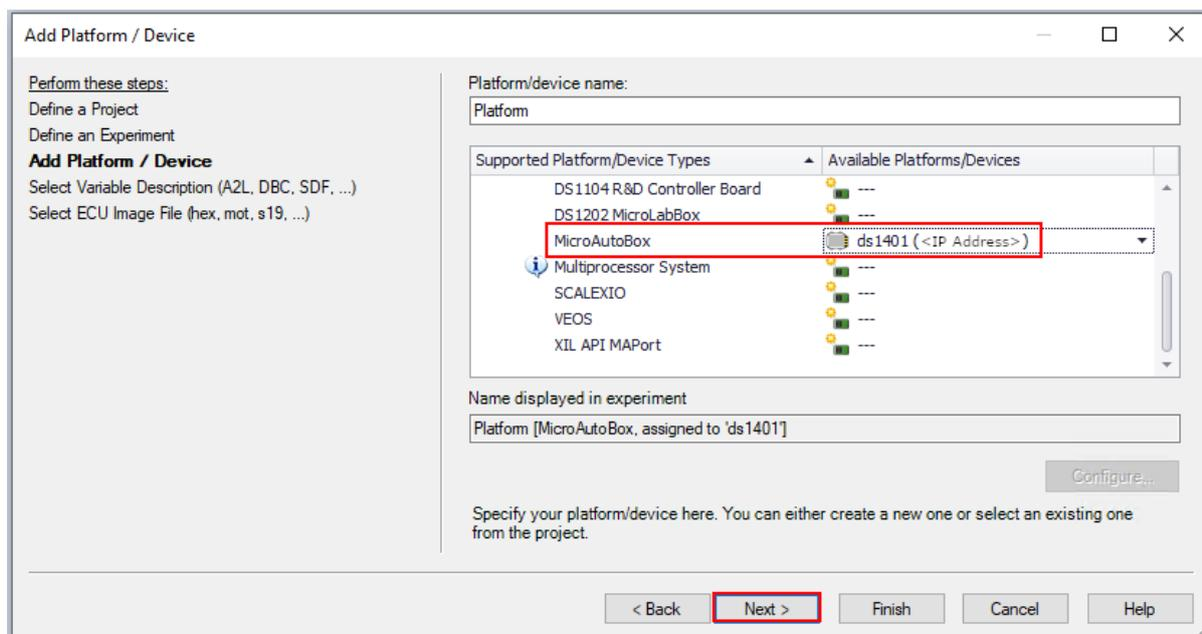

Figure 6.11: Select the MicroAutoBox platform
- Select the platform to which you will deploy the generated executable (see Figure 6.11).